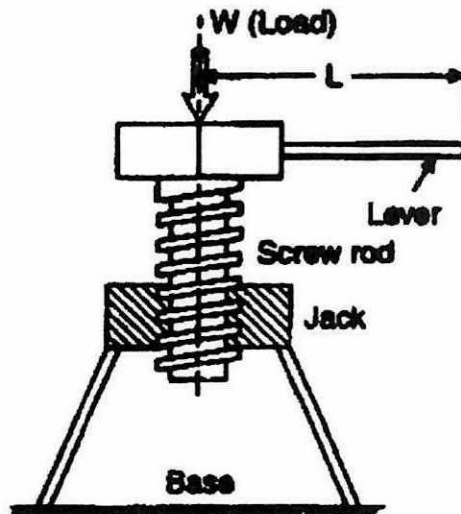

Figure Q4(b)
- (b) The mean diameter of a 'Vee' threaded screw jack as shown in **Figure Q4(b)** is 50 mm. The pitch of the thread is 15 mm and the angle of thread β is 18° . The coefficient of friction is 0.19. Calculate the efficiency and force that must be applied at the end of a 0.85 m long lever, which is perpendicular to the longitudinal axis of screw to raise a load of 35 kN. (14 Marks)